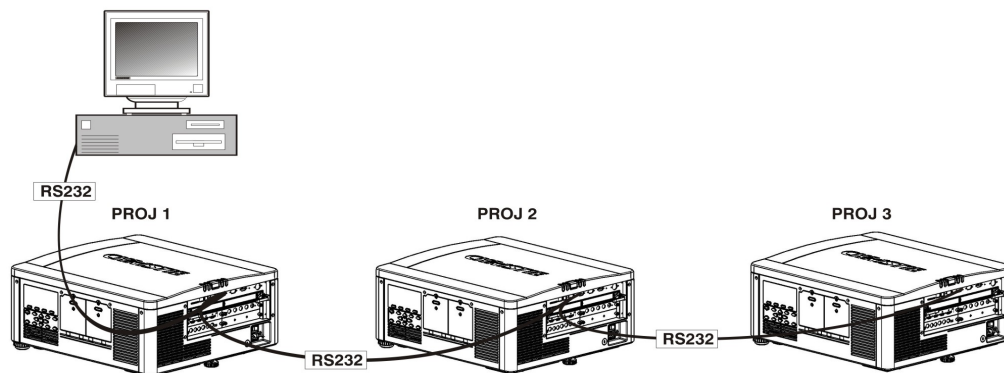

FIGURE 2-24 RS-232 NETWORK
3. Continue this pattern of connection with all projectors in the network. **NOTE:** The last projector in the network will only have a connection to the RS-232 IN connector, see Figure 2-24 RS-232 Network.